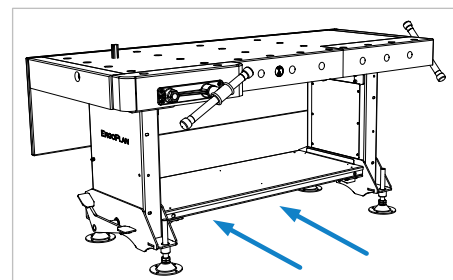

Figure 6: Transport to the installation site
- Unpack the Ergoplan and remove the packing material. Then lift the Ergoplan from the transport pallet with a forklift. When doing so, drive under the centre of the long side of the Ergoplan with appropriately adjusted forks (see ⇒ Figure 6) and carefully lift slightly. Then lift carefully from the pallet, remove the pallet and set the Ergoplan down on the ground.